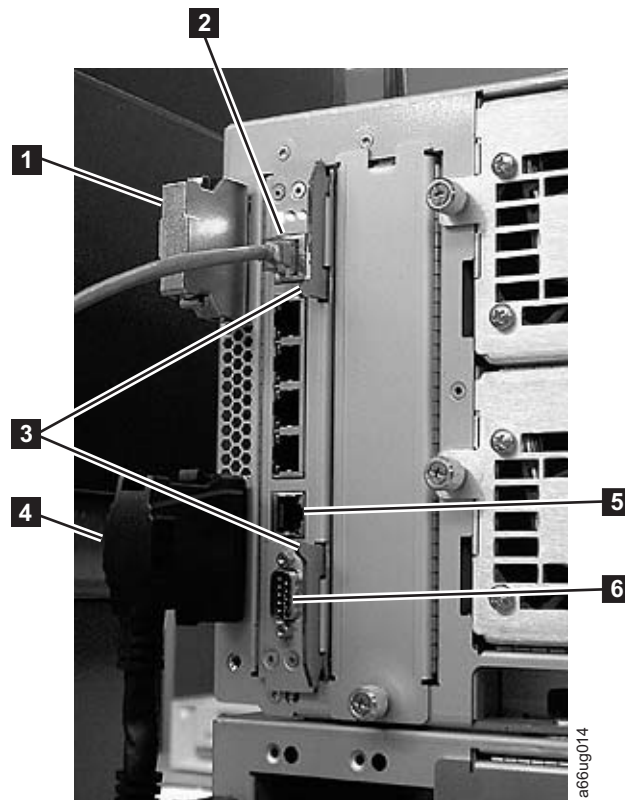

Figure 8-37. Library Control Blade (LCB)
2. On the LCB (Figure 8-37), disconnect the Ethernet cable (**2** in Figure 8-37) by pinching the tab to disengage the cable, and then pull the connector out of the LCB.
Note: Six slots reside below the Ethernet cable. The four topmost slots are reserved for future use. The two bottommost slots are designated as Ethernet (**5** in Figure 8-37) and serial (**6** in Figure 8-37) ports, and are reserved for use by IBM Service Personnel.
3. Grasp the pair of latches (**3** in Figure 8-37) near the top and bottom of the LCB. Simultaneously push the latches to the left, and then pull them out and away from the LCB.